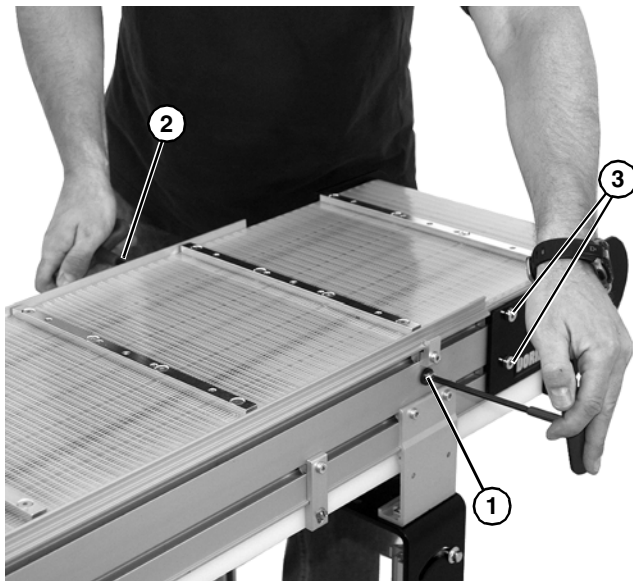

Figure 29
1. Ensure tensioning racks are extended and touching the idler pulley headplates: loosen the pinion locking screw (**Figure 29, item 1**) and rotate the pinion torque screw (**Figure 29, item 2**) clockwise until contact with the head plate is made, then tighten the pinion locking screw (**Figure 29, item 1**) to 69 in.-lbs (7.8 N-m).
2. On the side of conveyor to be adjusted, loosen two (2) tail clamp screws (**Figure 29, item 3**).
4. Re-tighten the head plate fastening screws (**Figure 29, item 3**) with a 8 mm hex-key wrench to 146 in.-lb (16.5 Nm).